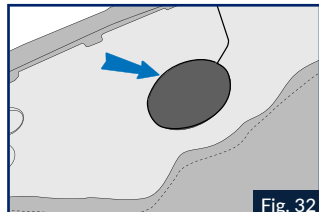

Fig. 32
-ding (cheek pads and liner) according to the description of disassembly of the textile on page 10. Then remove the 2 side covers on either side of the carburettor gasket. (Fig. 32).
2- Insert the left and right speakers of the **SENA FOR SHARK (Bluetooth or Mesh)** system into the earphone housings, passing their cable under the cover covering the polystyrene cheeks (use the vertical slot on the cheek cover for this purpose) (Fig 32). In order to allow the speakers to be held properly, do not forget to affix the small Velcro pieces provided in the box of your **SENA FOR SHARK (Bluetooth or Mesh)** system (Fig 33)